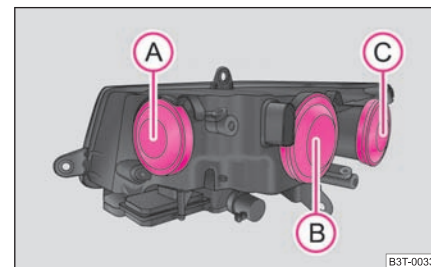

Fig. 217 Front headlight: Installing the light bulbs
Positions of the light bulbs in the front headlight ⇒ fig. 217.
- Remove the protective cap (A) ⇒ page 247, fig. 217.
- Remove the protective cap (B) ⇒ page 247, fig. 217.